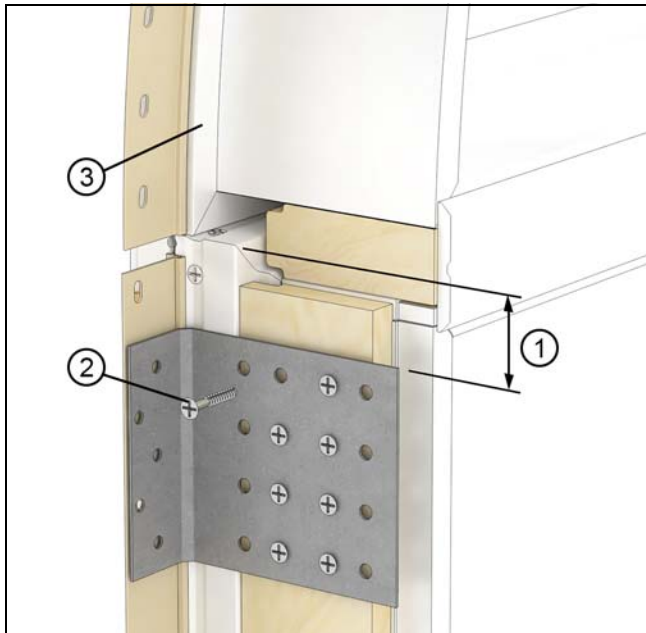

Figure 6
1. On lower units, place the mull clips 1 1/2" on either side of each mull point. Attach with eight #8 x 1 1/4" Phillips flat head screws. See Figure 6.